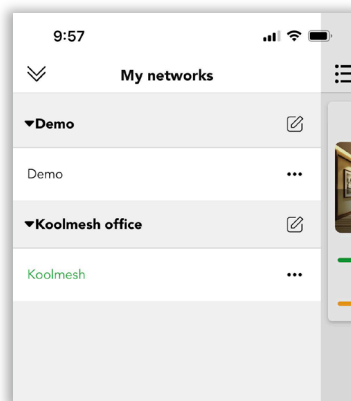

Figure 3.6 My networks
1. Click ✎ to change the name of the project in “My networks” (see figure 3.6)
2. Click ⋮ for network management and modify owning projects and delete the network (see figure 3.6).